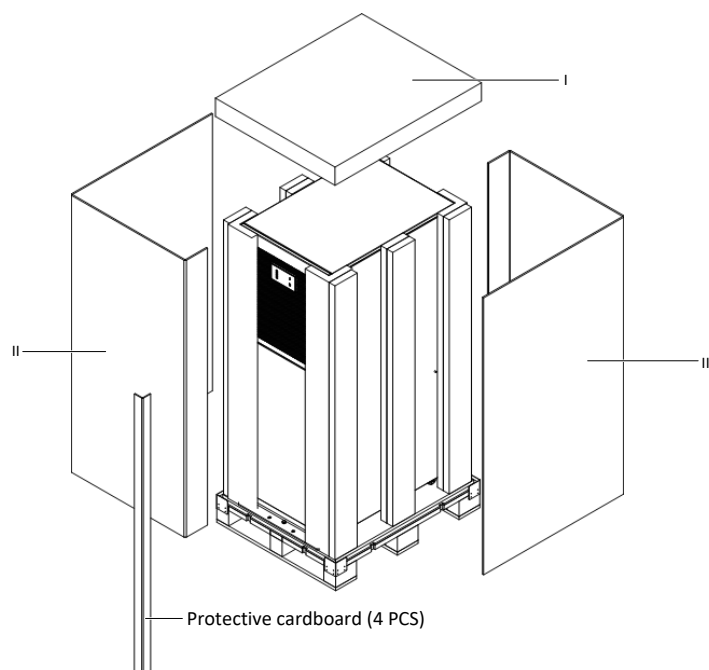

Figure 2-3 Removing Protective Cardboard
2. Remove the carton (I, II, III), wrapping film, and protective cardboard at four corners, as shown in Figure 2-3.